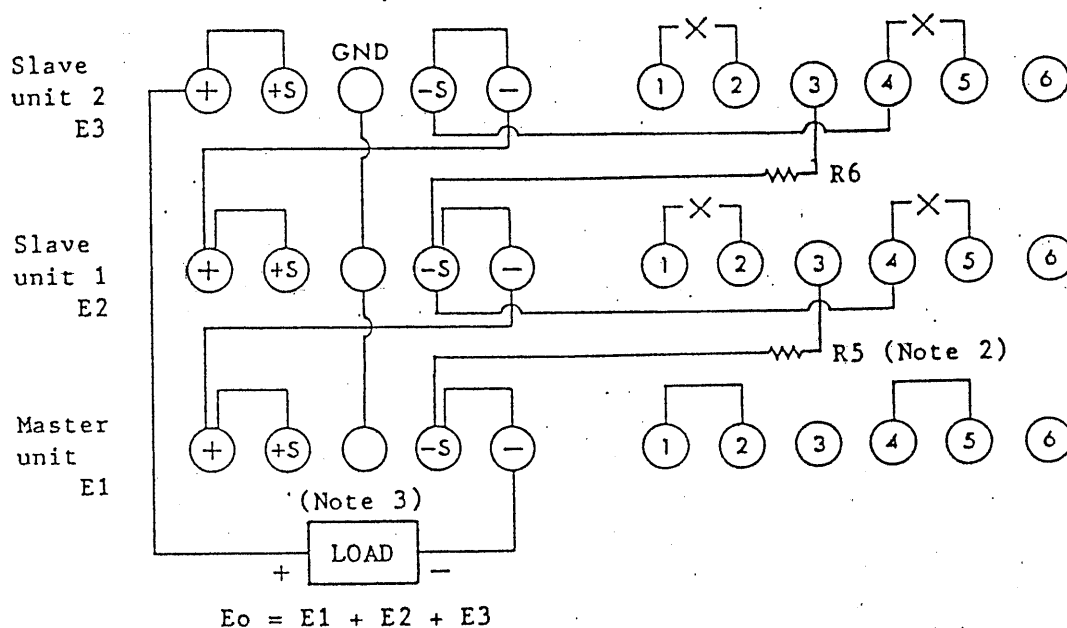

Figure 4-17
- (1) Turn off the input POWER switches of the units.
- (2) Referring to Figure 4-17, the unit at the bottom is the master unit and the other units are slave units.
- (3) Connect a resistor R5 (R6) between terminal ③ of the slave unit and terminal ⑤ of the unit below it as shown in Figure 4-17.
- (4) Connect in series the output terminals of all units.
- (5) Connect in common the GND terminals of all units to the required potential.
- (6) Turn the current setting potentiometers of all slave units to the clockwise extreme position.